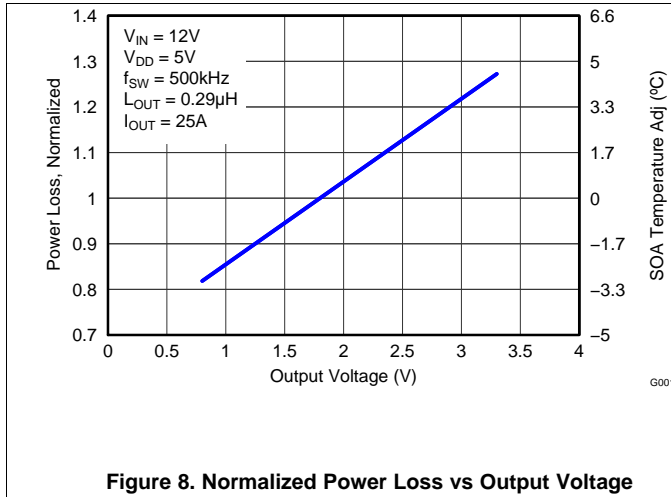

Figure 8. Normalized Power Loss vs Output Voltage
- Normalized Power Loss for output voltage  $\approx$  1.11 (Figure 8)
- SOA adjustment for output voltage  $\approx$  1.5°C (Figure 8)